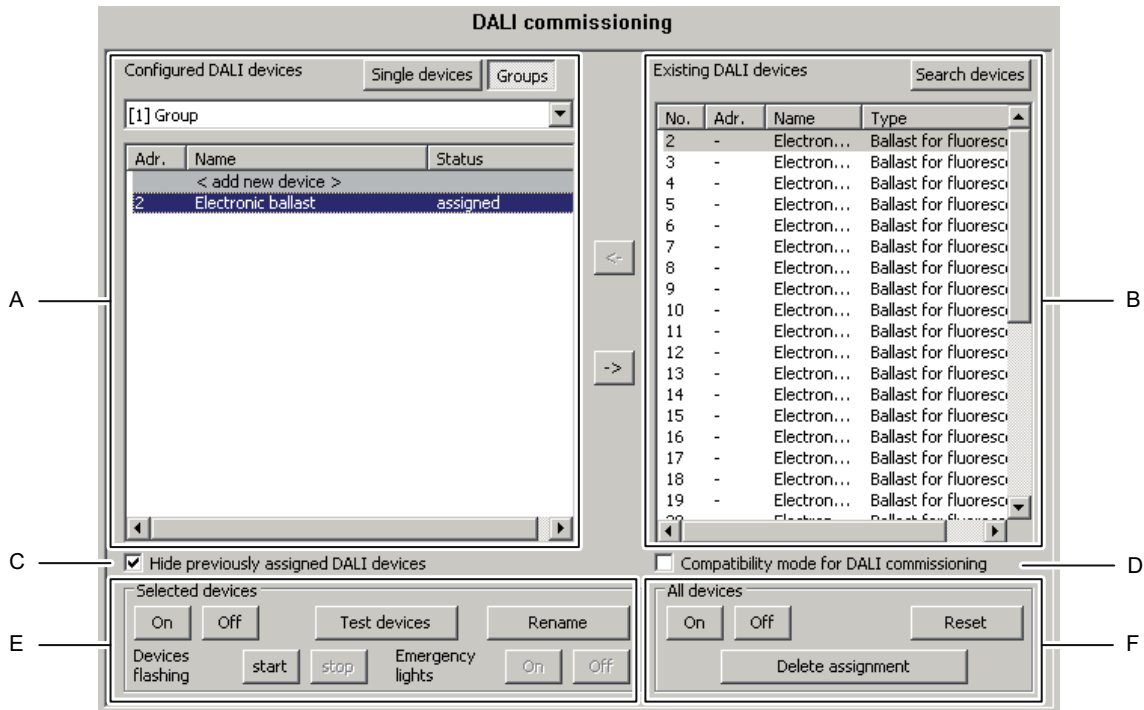

Figure 60: Panes of the commissioning environment
The commissioning environment of the plug-in is divided up into two panes. The right-hand pane lists the operating devices found in the DALI system. The left-hand pane displays the created groups. The assignment of the DALI devices to the programmed groups or single devices also takes place there (Figure 60).
During initial commissioning, no DALI operating devices are displayed in the right-hand window area (B) (Figure 60). To continue commissioning, the operating devices connected to the DALI cable must first be searched for. The DALI system must be fully connected and switched on without interruptions in order for the DALI Gateway to be able to find and identify all the connected DALI operating devices during the device search. In addition, the mains voltage supply of the DALI Gateway must be switched on.
For special cases, it is possible to assign operating devices for group control to more than just one DALI group. In the standard case, assignment of a DALI operating device is only possible in one device. This makes device assignment clear, and the unique assignment means that there are no group overlaps and, as a result, no influencing of configuration and feedback values. If necessary, multiple group assignment can be enabled as an alternative. To do this, the checkbox "Hide previously assigned DALI devices" (C) must be deselected in the Commissioning dialog of the plug-in (Figure 60). This means that it is then possible to assign DALI operating devices to more than just one group during online commissioning.